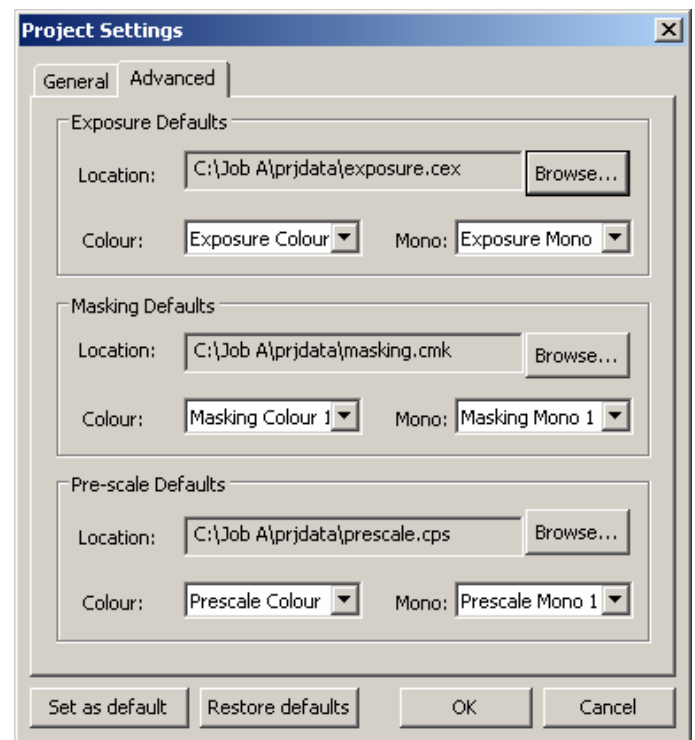

Fig 34 Project (Advanced) Settings Window
1. Lace Film left to right missing the feed and take up sprockets and run the film straight from the Feed Compliance arm to the Take Up compliance arm via the PTR (Particle Transfer Roller) rollers to the take up film core. Lace as A or B wind depending on the wind direction of the supplied film rolls.(See Fig 34).